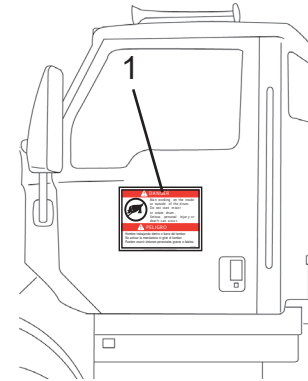

Figure 12
8. Remove magnetic “DANGER” signs (Figure 12, Item 1) from both doors.